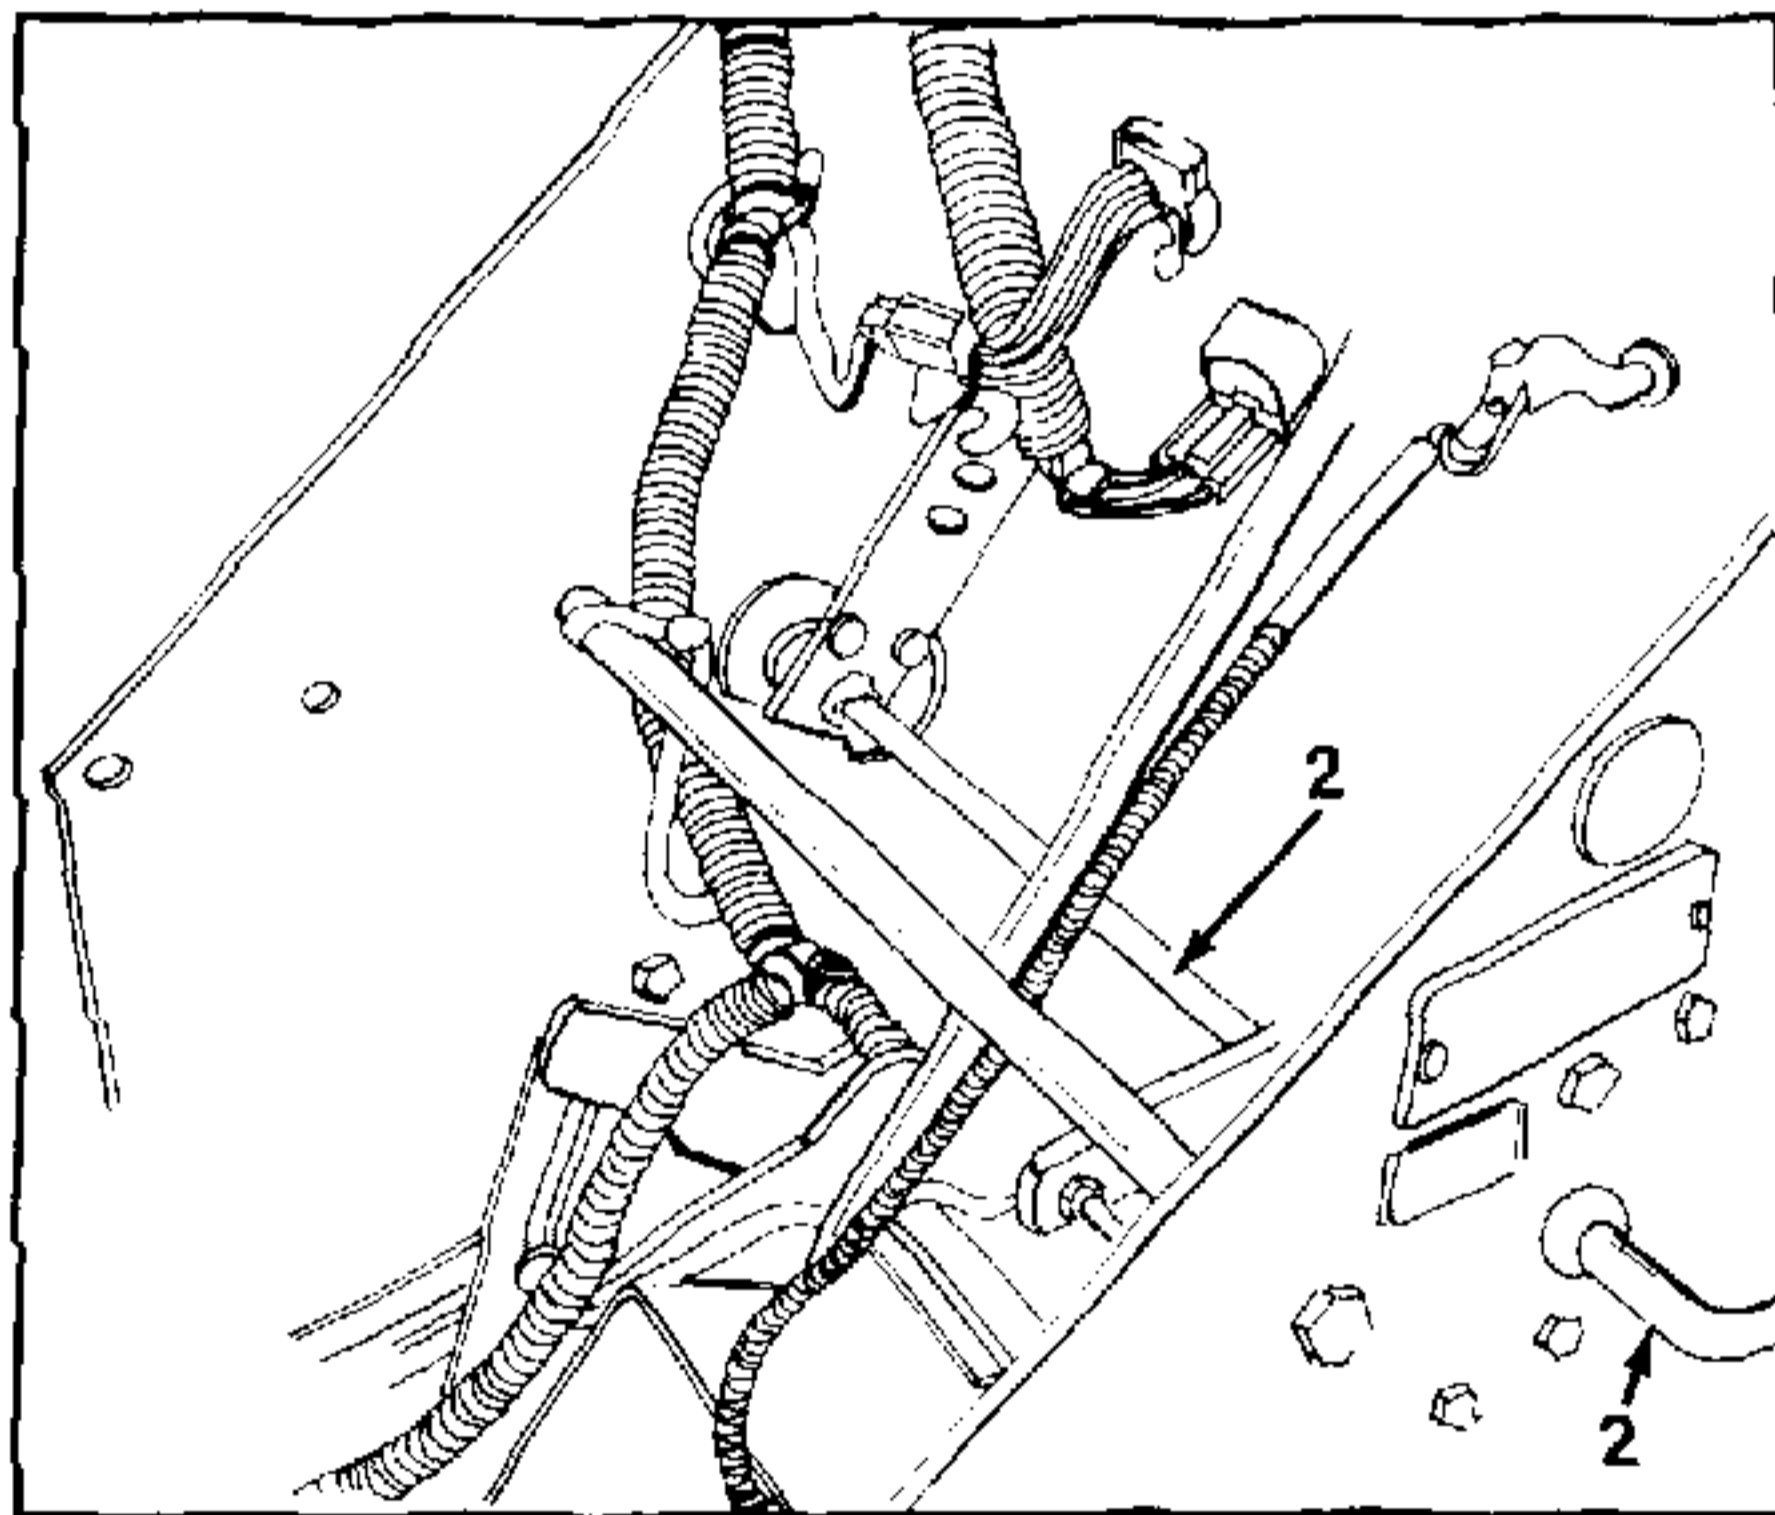

FIGURE 7.
- B. On 1420 unit, remove the battery and then proceed. Refer to figures 7 and 8.